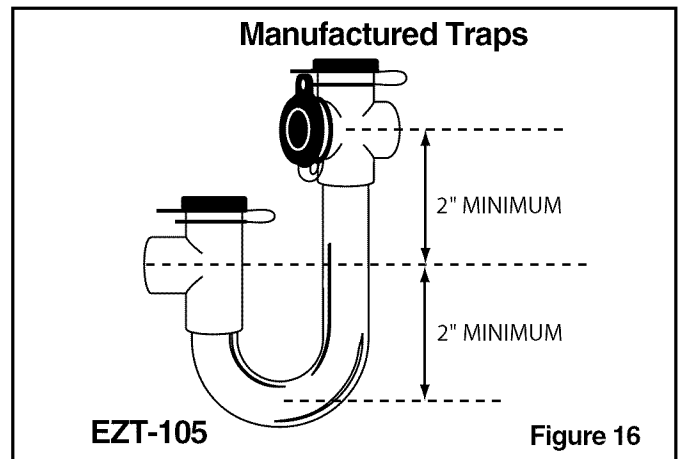

Figure 16
1. The primary drain line must be trapped with a minimum of 2" water seal as shown in Figures 16 & 17. **Do not use preformed 3/4" PVC running traps.**
The use of Field fabricated or manufactured traps as shown in Figures 16 & 17 is acceptable. The manufactured trap shown in Figure 16 allows for a float switch option to be added. Refer to the manufacturer's data and instructions for details.
- It is recommended that a clean-out tee or cross be installed in the primary drain line for future maintenance (See Figure 16 & 17).